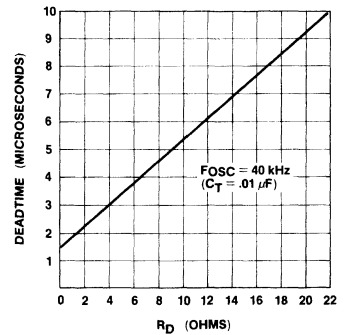

FIGURE 6.
2. If more dead time is required, select a larger value of R_D using Figure 6 as a guide. At 40 KHz dead time increases by 400 nSec/ohm.